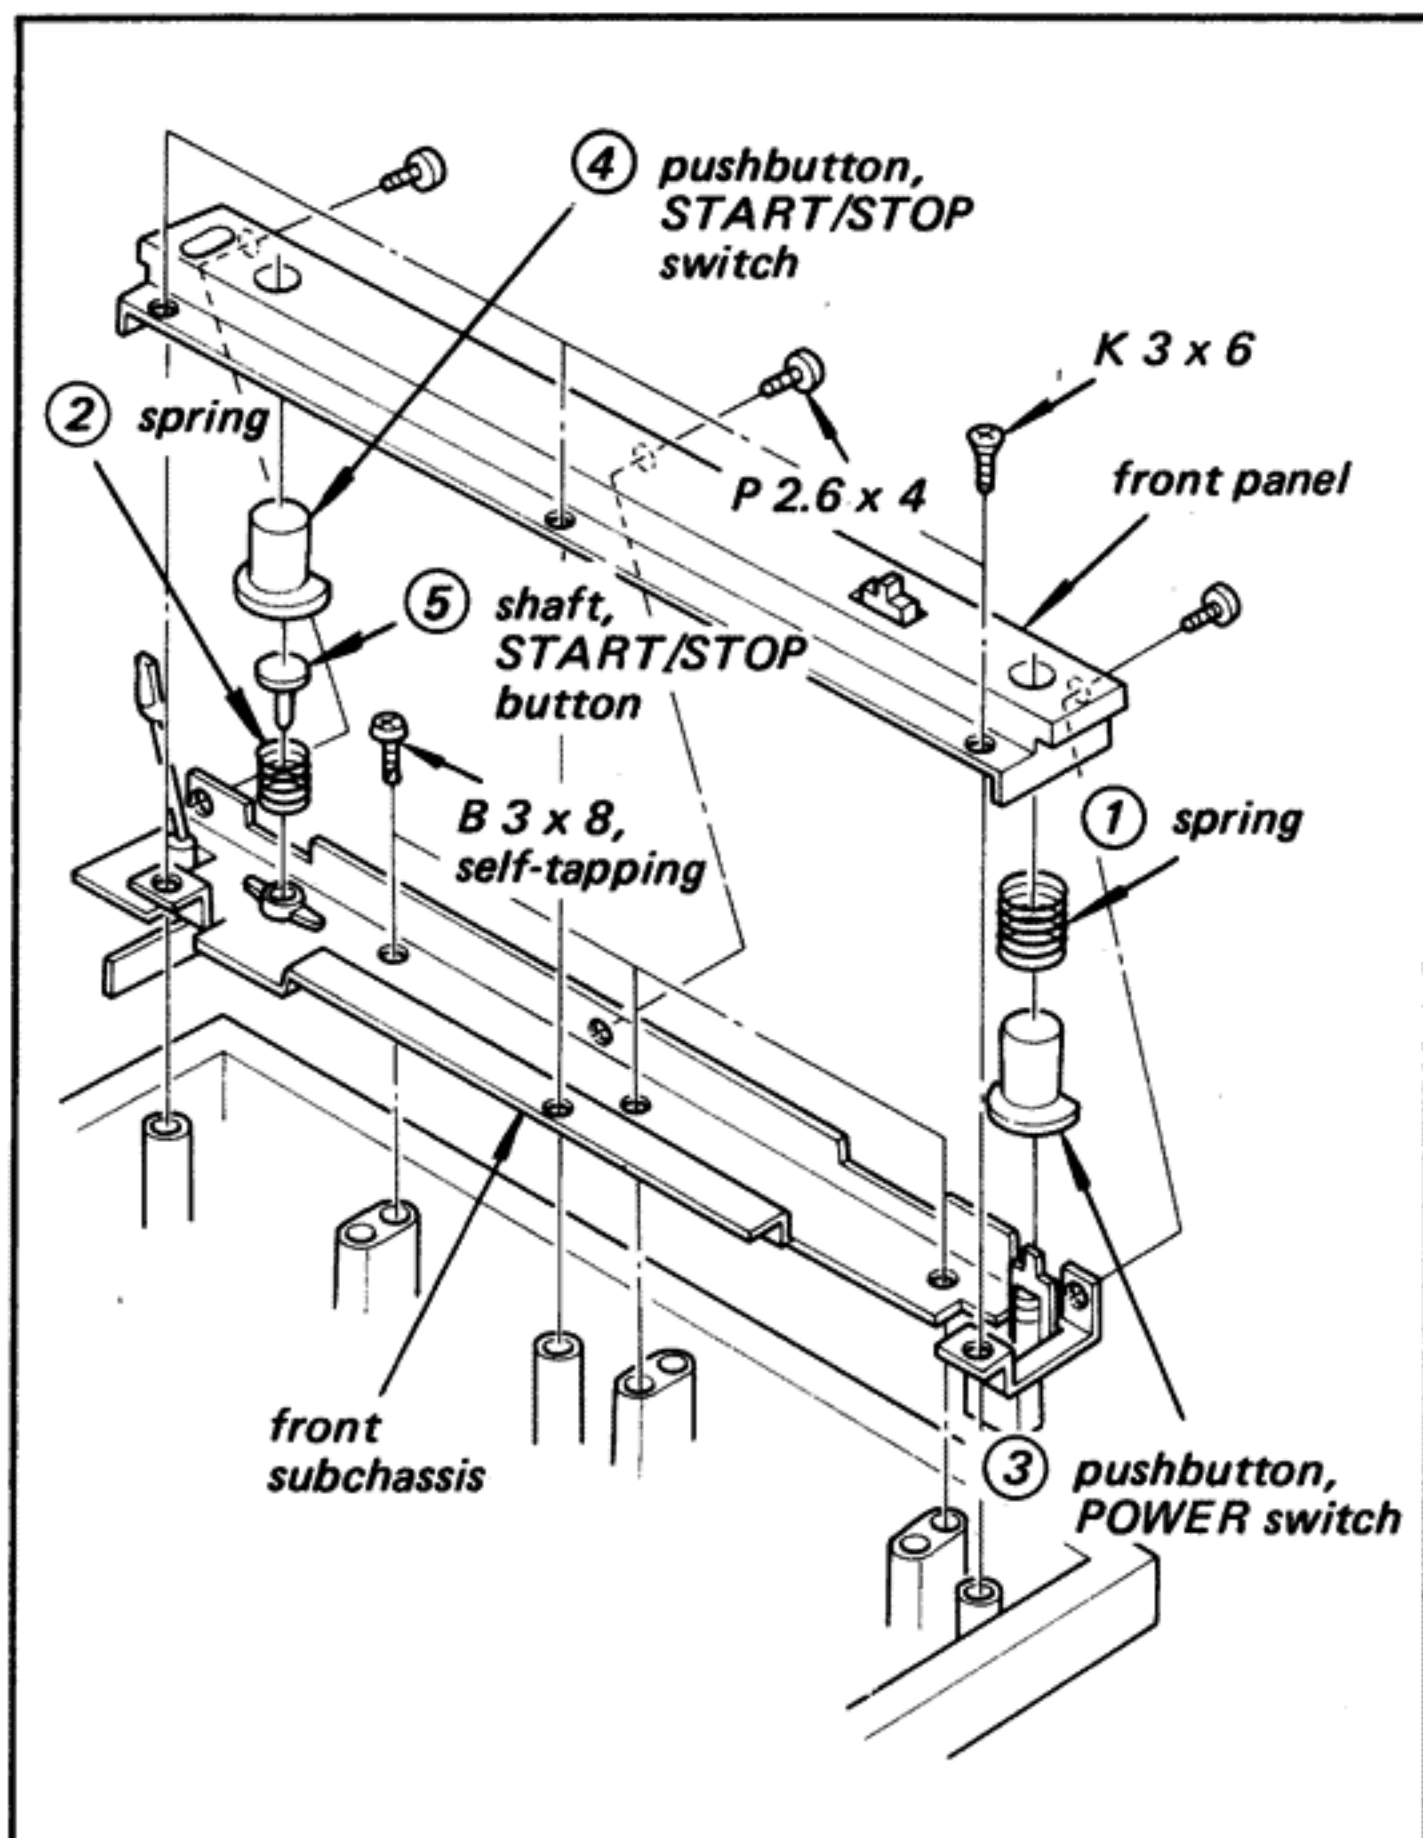

Fig. 2-12. Front panel/front subchassis removal
- Remove the front panel carefully by removing the three screws (P 2.6 x 4) and the three screws (K 3 x 6) shown in Fig. 2-12.
- Remove the springs ① ②, pushbuttons ③ ④, and START/STOP button shaft ⑤ shown in Fig. 2-12.
- Remove the front subchassis by removing the three screws (B 3 x 8, self-tapping) shown in Fig. 2-12.